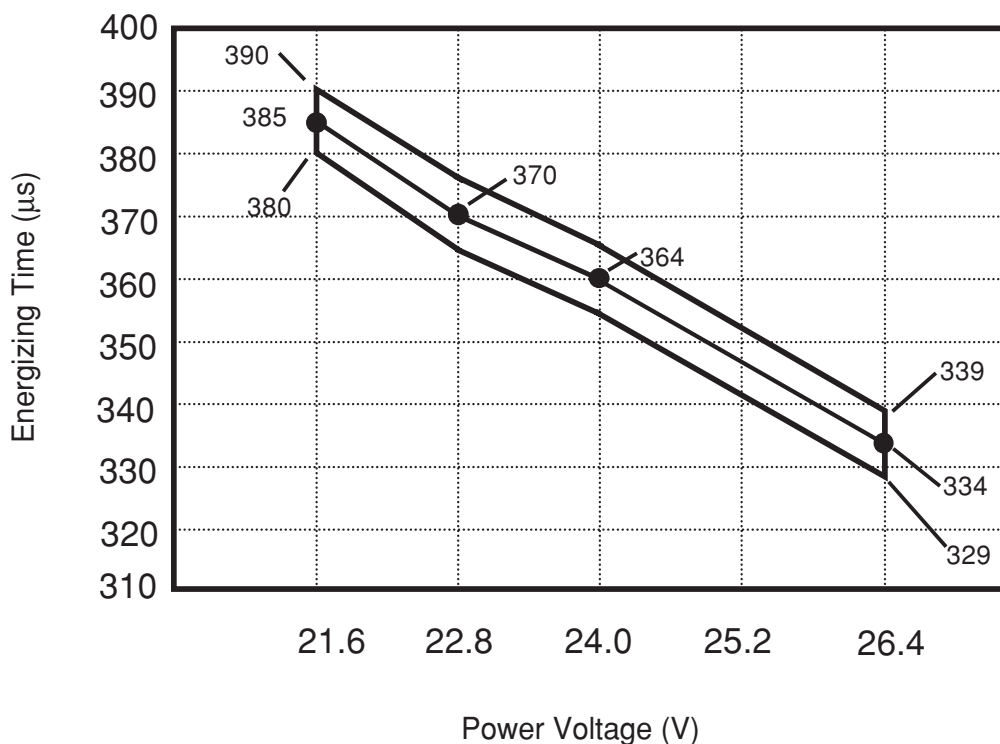

Fig. 4-4 Head Energizing Time - Head Power Supply
- 4) Energizing Time: See Fig. 4-4